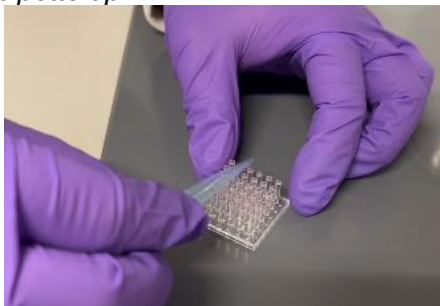

Figure 3. Scraping excess Matrigel off the pillars using the 1 mL pipette tip.
14. After loading Matrigel on all pillars, scrape excess Matrigel off the pillars by sliding the 1 mL pipette tip in a horizontal position on all pillars (**Fig. 3**).